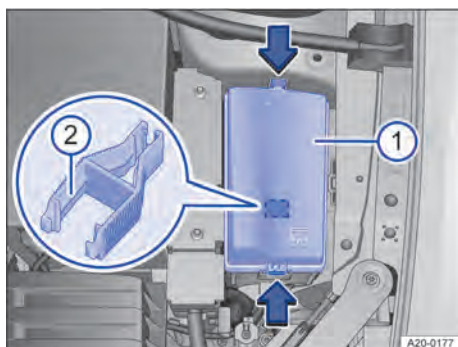

Fig. 181 In the engine compartment: fuse box with plastic grippers.
2. Press the locking button in the direction of the arrow → Fig. 181 (arrows) in order to unlock the cover of the fuse box → Fig. 181 ①.
There may be a pair of plastic grippers for removing fuses in the fuse box → Fig. 181 ②.